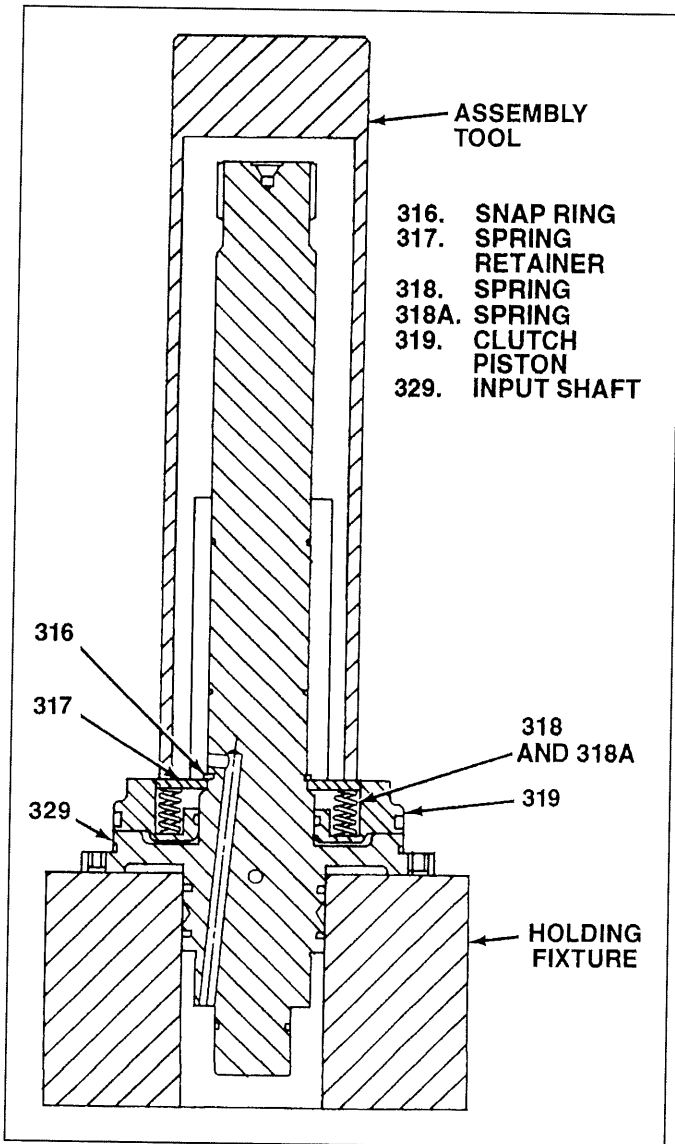

Figure 3-12: Removing Snap Ring
1. Remove snap ring (307) if not already removed.
2. Remove twelve bolts (313).
3. Remove clutch gear cylinder (315) from input shaft (329).
4. Support input shaft (329) in suitable holding fixture (see figure 3-12) in arbor press. Press down on spring retainer (317) to compress springs (318, and 318A if used) slightly. Remove snap ring (316).
5. Slowly release arbor press, allowing springs (318, and 318A if used) to expand. Remove assembly tool and spring retainer (317). Remove four springs (318) and twelve springs (318A). Remove shaft assembly from arbor press and holding fixture.
6. Remove clutch piston assembly (319) from input shaft (329). Remove sealing ring assembly (320), consisting of sealing ring (321) and o-ring (322), from groove in piston OD. Remove sealing ring assembly (323), consisting of sealing ring (324) and o-ring (325), from groove in piston ID.
7. Remove two seal rings (327) and seal ring (328) from input shaft (329).